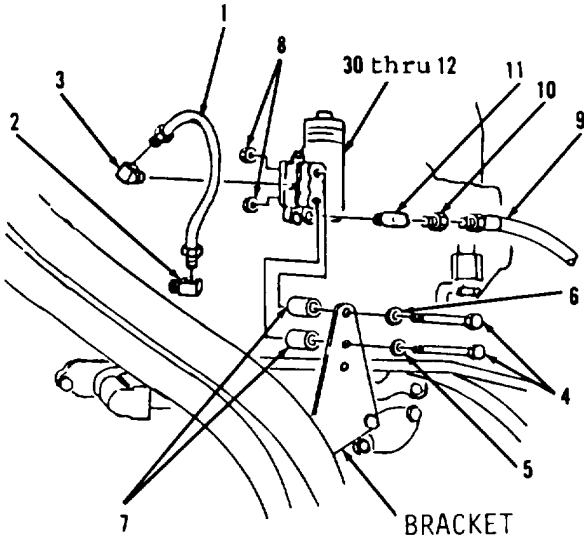

Figure 6-58.
- 1. Install items 30 thru 12 as an assembly.
- 2. Install elbow (11) and connector (10) on air compressor governor (30, Figure 6-58).
- 3. Connect air tank line (9).
- 4. Install two nuts (8), spacers (7), washers (6 and 5) and two bolts (4) to secure items 30 thru 12 as an assembly to bracket.
- 5. Install elbows (3 and 2) on air compressor governor (30).
- 6. Install air line (1) on elbows (3 and 2).